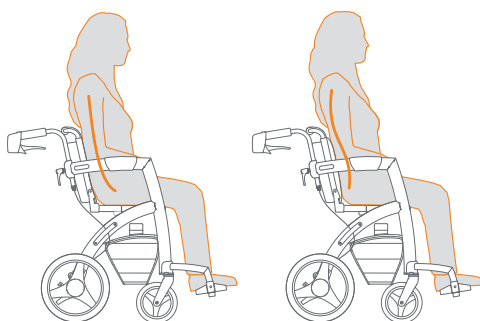

Figure 47: Before and after adjusting the back straps, on the right you see the correct sitting position.
- f. Try out if the user can comfortably sit in a correct sitting position (**Figure 47**).